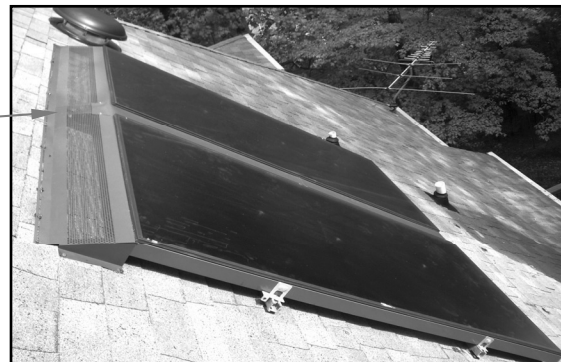

Fig. 6.3.1 – Two collectors with center-flashing and leaf guard.
3. Insert triangular caps into left and right leaf guard ends. Secure end caps to roof with included roofing screws (*Fig.6.3.1*).
5. Bend center-flashing down to leaf guard and secure with self-drilling screws if applicable (*Fig.6.3.1*).